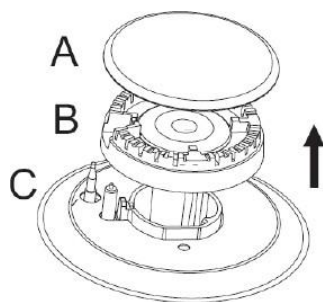

Fig. 8 (representation only)
- 3) Remove the burner cap (A) and burner (B) from the burner base (Fig. 8).